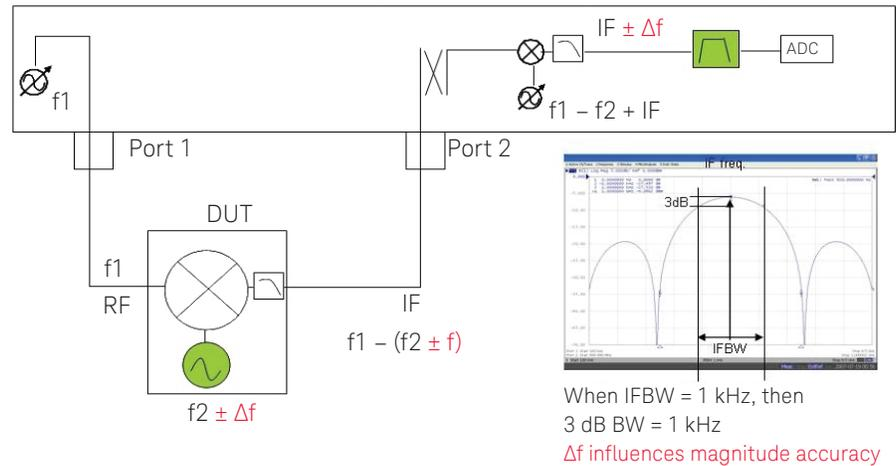

Figure 9. IFBW versus LO frequency drifts with FOM mode
Figure 9 shows the ENA setup in FOM. IFBW is set to 1 kHz, and the 3 dB bandwidth (BW) of the IFBW filter is approximately 1 kHz. If the actual output frequency of the DUT has an offset such as 500 Hz (= BW/2) from target frequency, the magnitude result has a 3 dB error. When the output signal drifts, the measurement results are also changed at the same time.